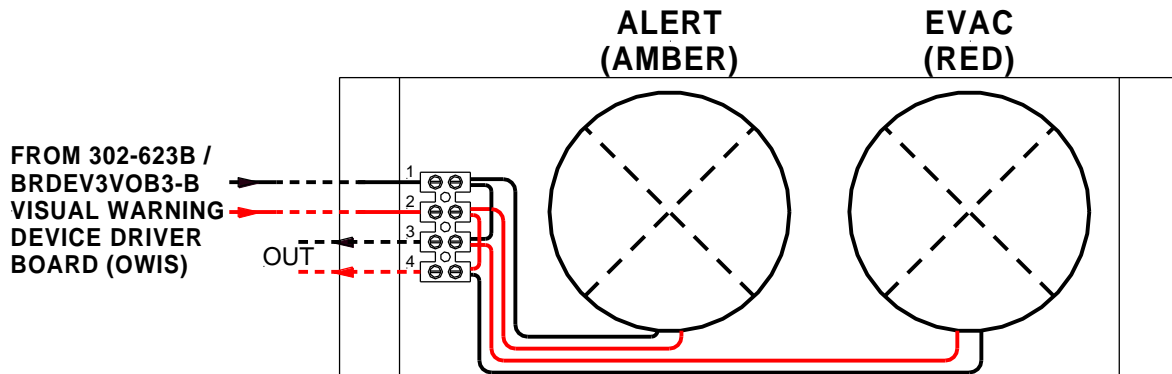

Figure 27: Visual Indicator Connections (XENON STROBES) 208-0011
The time base is ten (10) seconds, i.e. the minimum time out possible is 10 seconds to a maximum of 10 minutes in 10 second increments. An eight position DIL switch located on the rear of the 302-4220 main CPU Board (refer Figure 27) is provided to select the required time out.